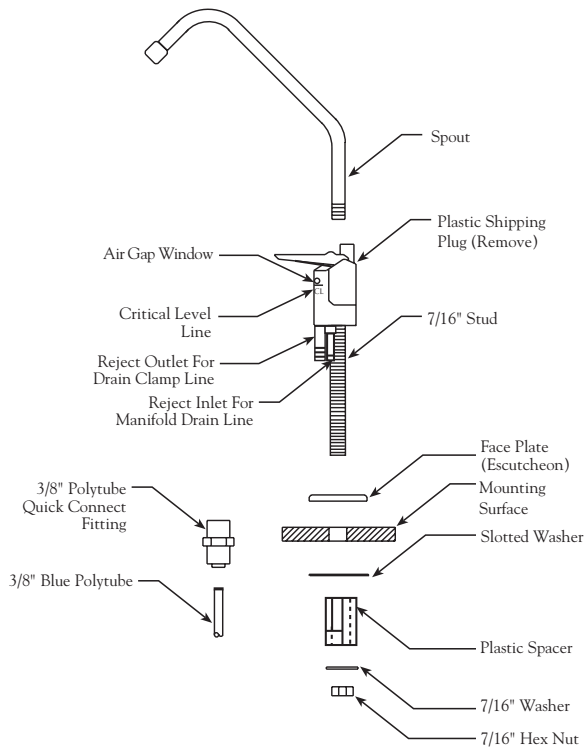

Figure 2
3. Assemble and attach the Faucet. (Refer to Fig. 2 above.)
- Check the Air Gap Window on the Dispensing Faucet to be sure that the drain water is flowing. (Refer to Figure 2, page 6.) The RO System is now making water.